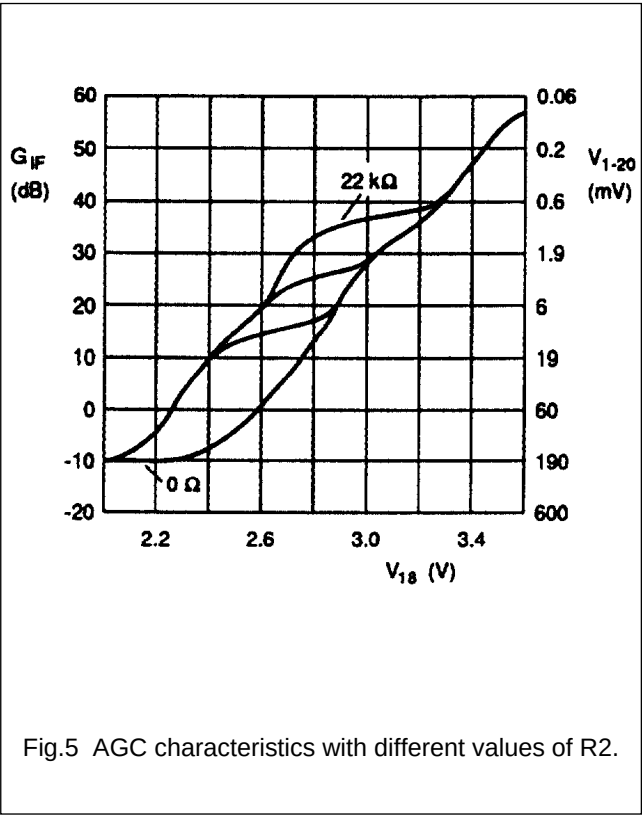

Fig.5 AGC characteristics with different values of R2.
2. The starting point of tuner AGC can be adjusted by the resistor at pin 2. Fig.5 shows the AGC characteristic.